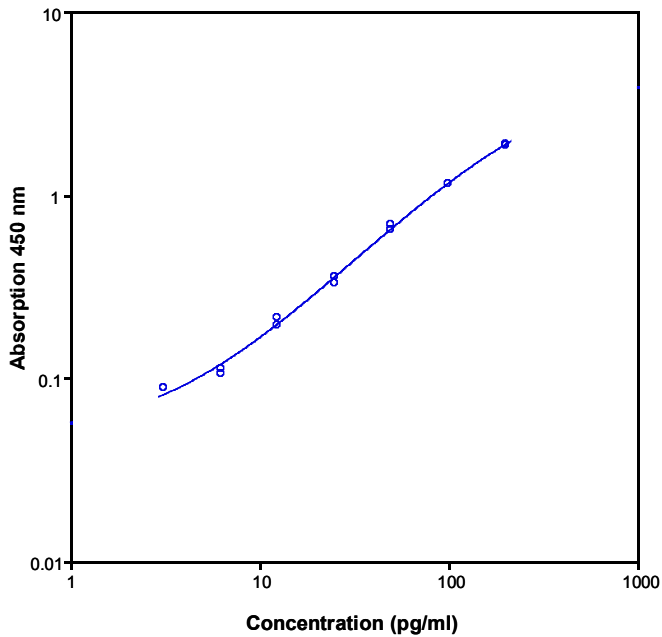

Fig. 8 Representative standard curve for human IL-10 ELISA. Human IL-10 was diluted in serial 2-fold steps in Assay Buffer (1x).
- A representative standard curve is shown in Figure 8. .